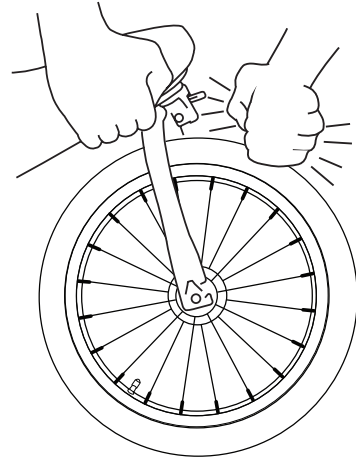

Fig. 1D
5. Lift the front wheel off of the ground and sharply strike the top of the tire (Fig. 1D). The wheel should not be loose or come off.